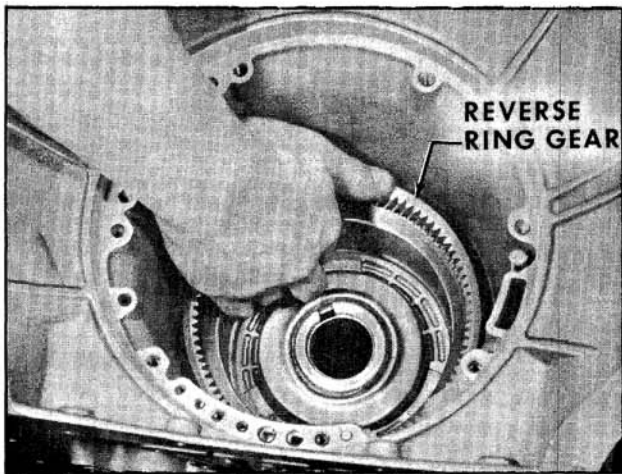

Fig. 6-377 Removing Reverse Ring Gear
3. Remove reverse ring gear from case. (Fig. 6-377)